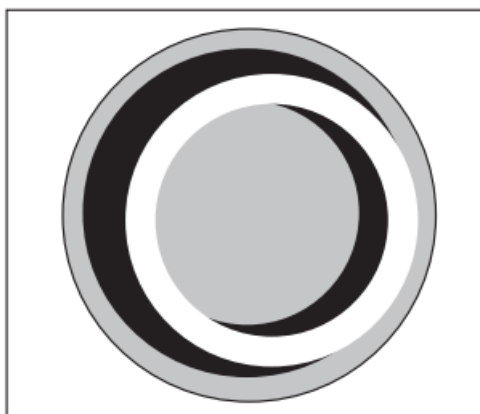

Figure 9
7. Looking through the phase contrast centering telescope, rotate the uppermost section of the phase contrast centering telescope until the image is in focus. The image seen through the phase contrast centering telescope should resemble rings superimposed on one another (figures 9 & 10).